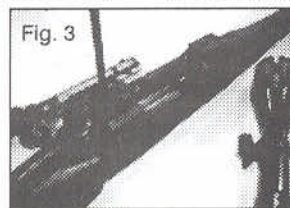

Fig. 3
- 3) Fig 3 & 4: If your rifle was equipped with optional scope mounts or scope rail, install mounts or rail in holes on top of the receiver, make sure that safety